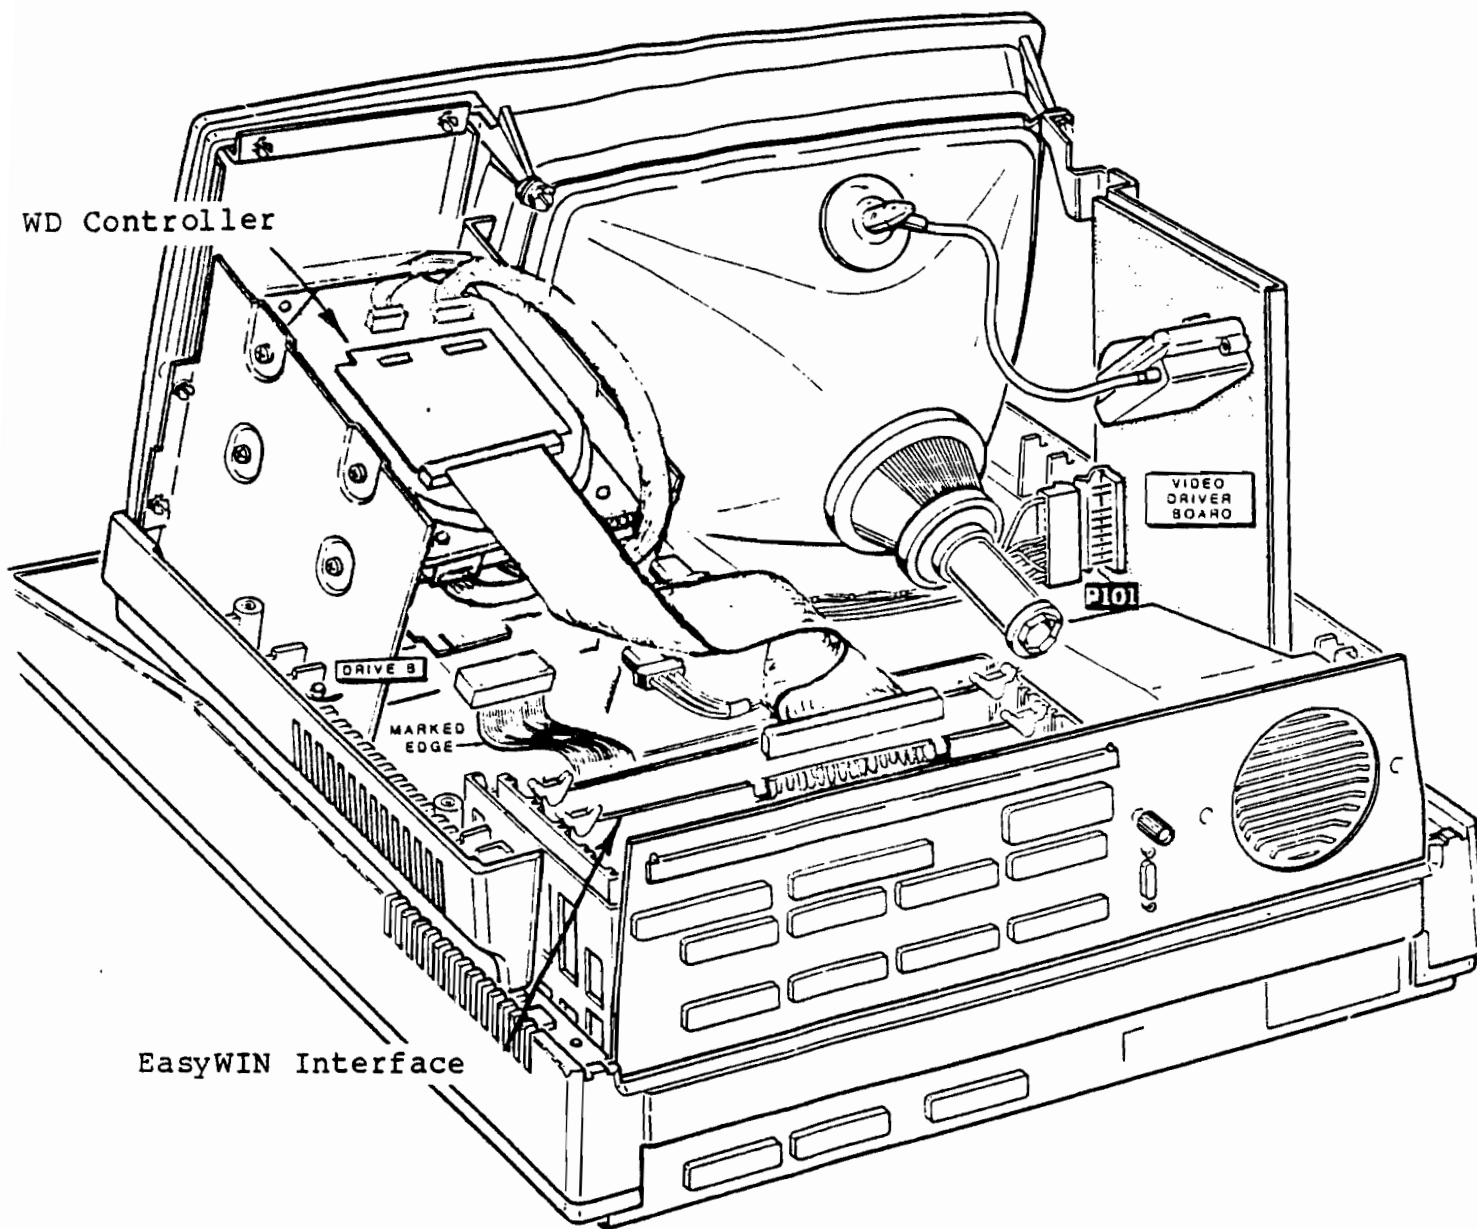

Figure 14
14. Insert the EasyWIN intelligent interface board into a free S-100 slot on the motherboard. Flip the 64 pin edge card cable attached to the WD controller's fingerboard over. Align pin 1 (striped edge) over B1 on fingerboard P2 of the interface board. Press down on the connector firmly until seated. See figure 14.